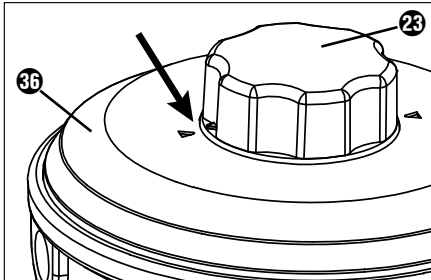

Fig. 1
- 1) Make sure that the two arrows on the cover ③⑥ and on the rotary knob ②③ of the line spool ②② point towards each other (see Fig. 1).